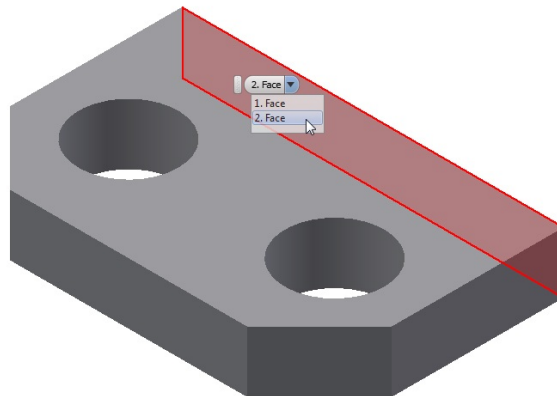

Figure 5-82 Selecting the back face of the model using the options in the **Select Other** flyout
2. As the **Start 2D Sketch** tool is active, move the cursor close to the back face of the model and hover it for sometime. On doing so, the **Select Other** flyout is displayed on the model. Choose the desired face option from this flyout to select the back face of the model, refer to Figure 5-82. Next, click on the model to confirm your selection.